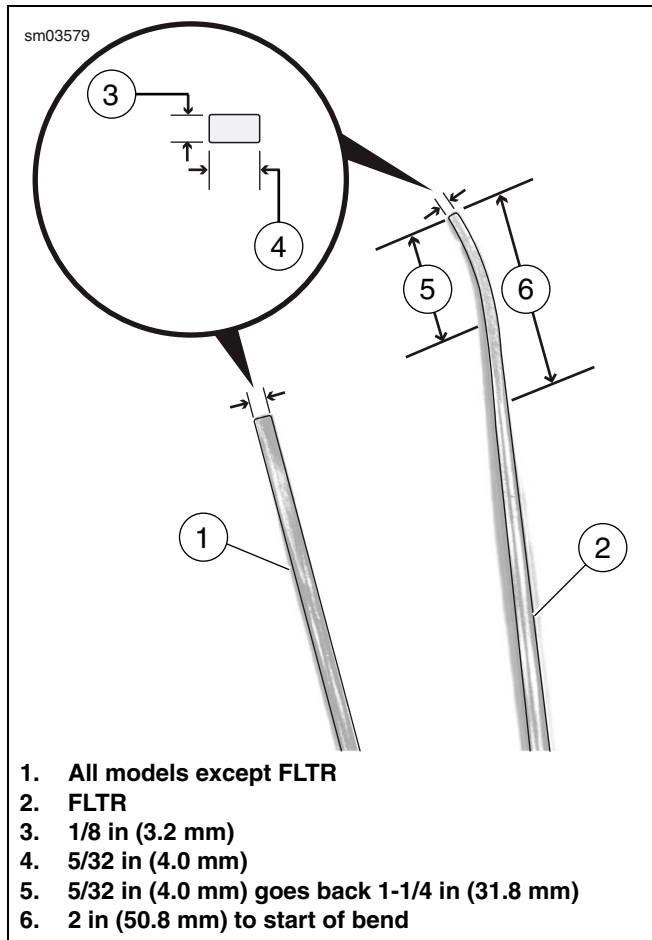

Figure 1-40. Fashion Bearing Adjuster Tool
3. Loosen the fork stem nut (1).
4. See Figure 1-40. Fashion a bearing adjuster tool using a drill rod 1/4 in. (6.4 mm) in diameter and 16 in. (406.4 mm) long.